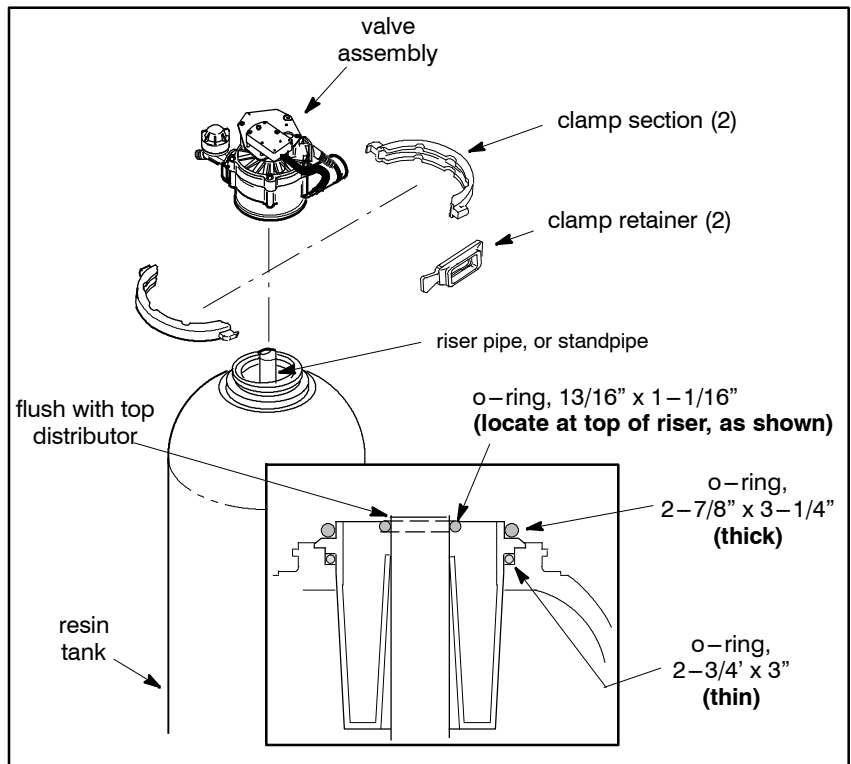

Figure 5
10. Remove retainer clips and clamps from around the tank neck. Set aside. **Figure 5.**
11. Remove valve from resin tank and set aside. **Figure 5.**
13. Be sure all parts are clean and free of resin beads and other debris, including the bottom of the valve assembly. Lightly lubricate the o-ring sealing surface in the inside of the valve port, at the bottom of the valve. **Figure 5.**
14. Locate the distributor o-ring at the very top of the riser pipe as shown in **Figure 5.** DO NOT SLIDE IT DOWN TO REST AGAINST THE TOP DISTRIBUTOR.
15. Carefully lower the new valve assembly onto the tank, aligning it with the riser pipe, and work over the o-ring and onto the adaptor. Then clamp in place. **Figure 5.**